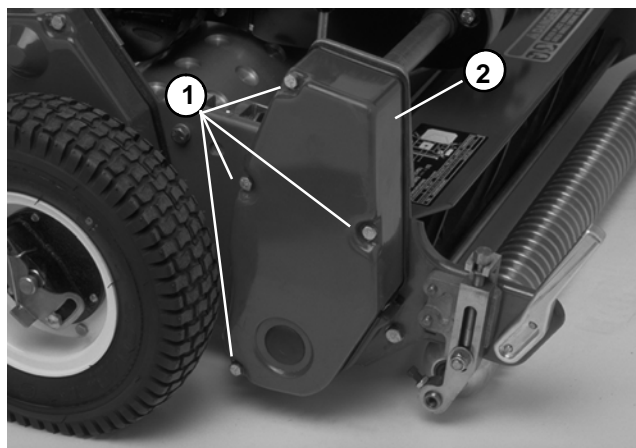

Figure 7
A. Remove cap screws, lock washers, and belt covers to expose the belt (Fig. 7).